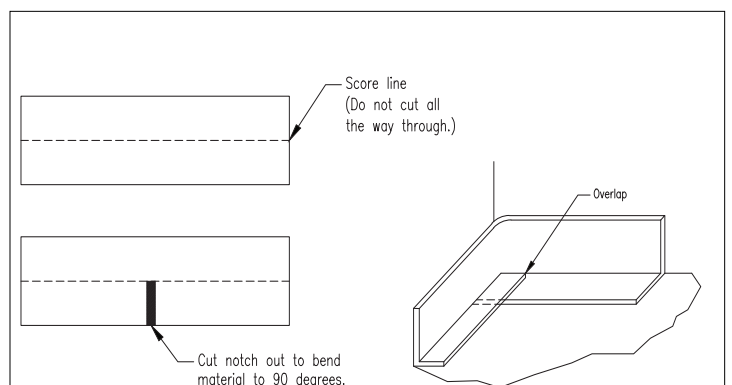

Figure 7. Installing HydraPanel at a corner.
3. When installing HydraPanel around a corner, the material should be sliced, and two studs removed. Then the panel is folded back on itself to make a clean corner fold. Terminate the HydraPanel just prior to the pit. There is no need to use HydraPanel over the pit (See Figure 7).